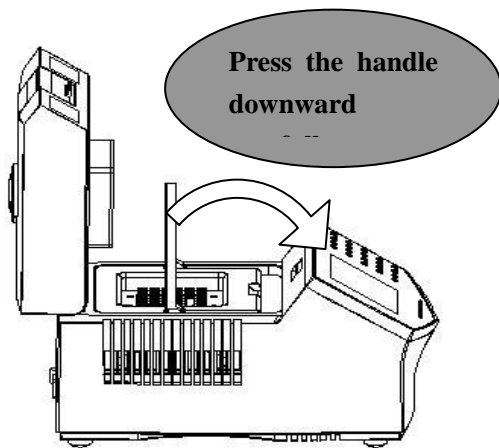

Figure 12
Step 4: After the module parts completely contact the shell, press back the handle downward to make the magnetic steel on the handle and the shell mutually attract. (See Figure 12)